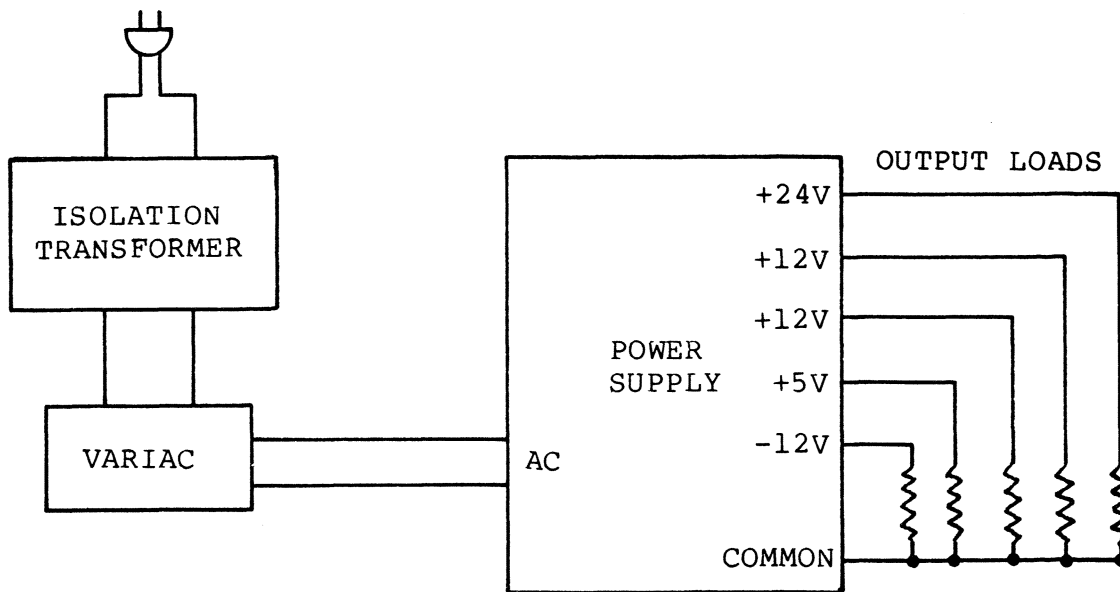

Figure 7-15. Test Layout, Power Supply
1. Set up as shown in Figure 7-15. You will want to monitor the input voltage and the output voltage of the regulated bus, which is the +5 V output, with DVMs. Also monitor the +5 V output with the oscilloscope using 50 mV/div sensitivity. The DVM monitoring the +5 V output can also be used to check the other outputs. See Paragraph 7.3.4 for test points within the power supply.